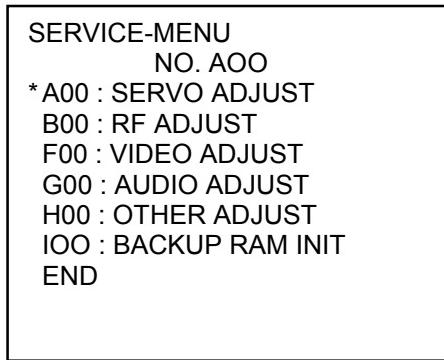

Figure 8-1
- The error rate is displayed and measured on the AUDIO LEVEL METER at the first page (main screen) of Service menu mode (refer to figure 8-1)